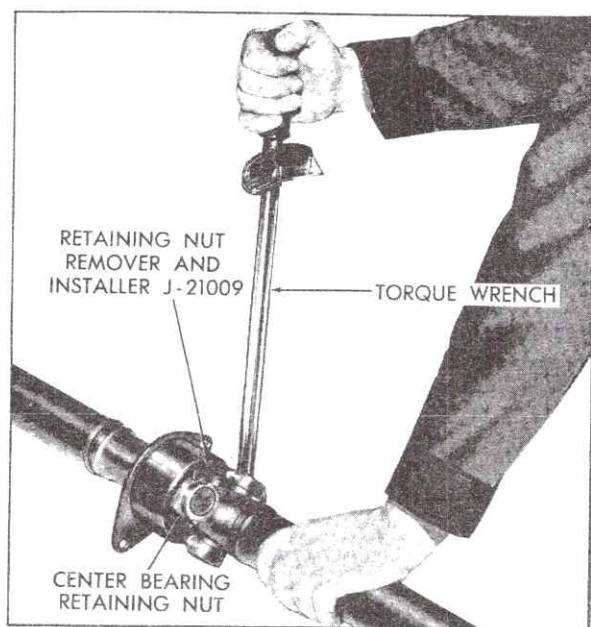

Fig. 4-27 Tightening Center Bearing Retainer Nut
8. Tighten center bearing retaining nut to 55 foot-pounds using Center Bearing Retaining Nut Remover and Installer J-21009, and a torque wrench, Fig. 4-27.